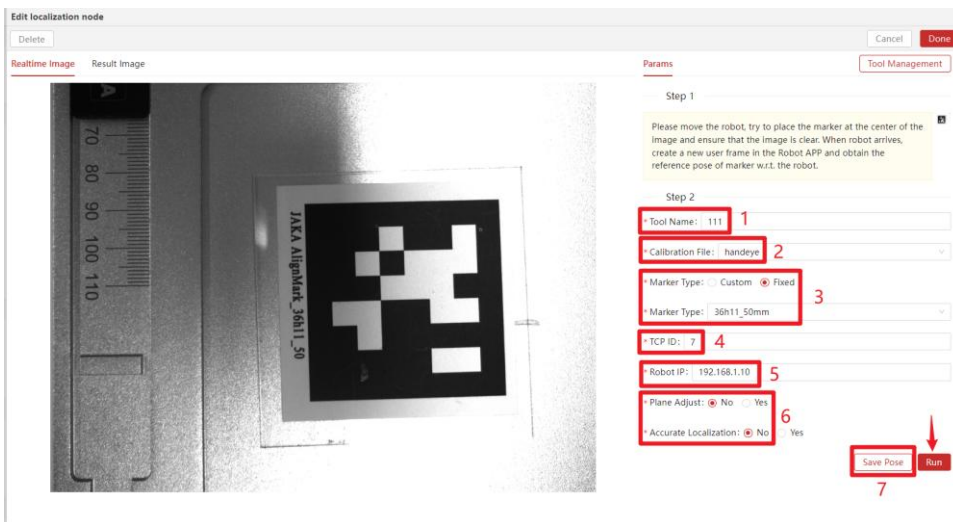

Figure 5.2-3
4) Place the AlignMark in the center of the field of view, adjust the camera exposure gain, obtain images suitable for the two images, and click [Finish] to save the settings. Image quality reference in Figure 5.2-3.